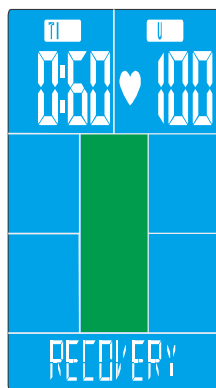

FIGURE 22
- a. TIME and PULSE function was displayed, other functions stop and cannot be displayed (Figure 22).